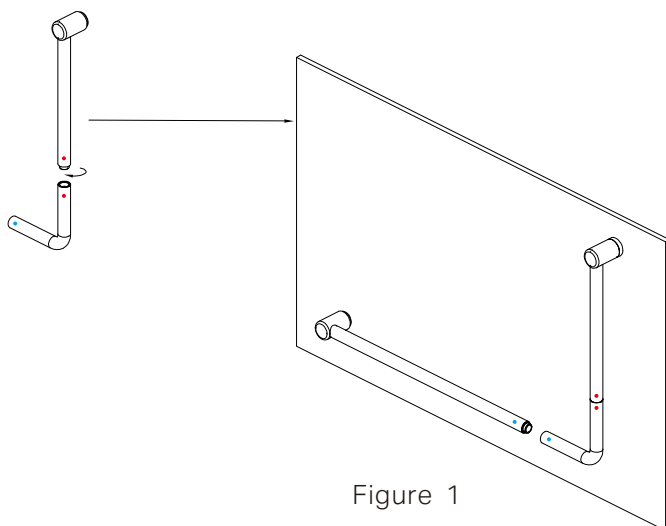

Figure 1
6. Connect the Vertical Grab Bar (with the red sticker) to the Connecting Elbow with the red sticker on one end as shown in the figure 1. This is the correct connection. If the Vertical Grab Bar (with the red sticker) to the Connecting Elbow (with the blue sticker) on one end, the situation shown in the figure 2 which is an incorrect connection and should be avoided.